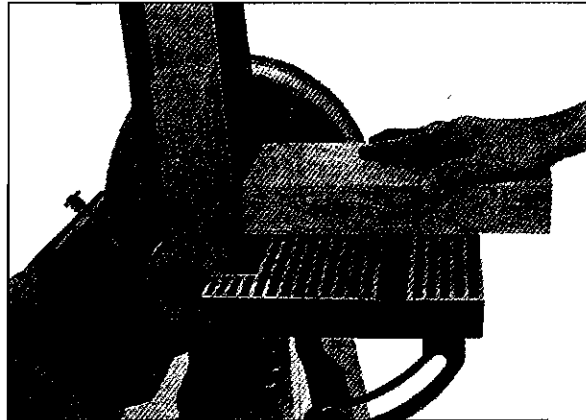

Fig. 18
**Note:** With the belt in vertical position, you may use the work table. See Fig. 18. Simply remove work table from disc location and slide table rod into hole provided in front, at base of belt, as shown in Fig. 15. Again, be sure of the 1/16" clearance between table and sander.
To sand the end of the workpiece, use the vertical belt position. The work table will aid you much better for this operation than the back stop (Fig. 18).